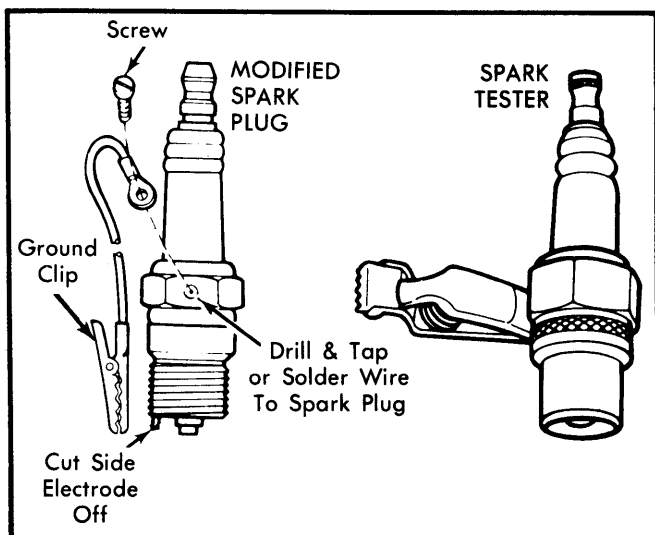

Fig. 5 Modified Spark Plug and Spark Tester
1) Disconnect wire from either No. 2 or No. 4 spark plug. Connect a spark tester to spark plug wire. See Fig. 5.